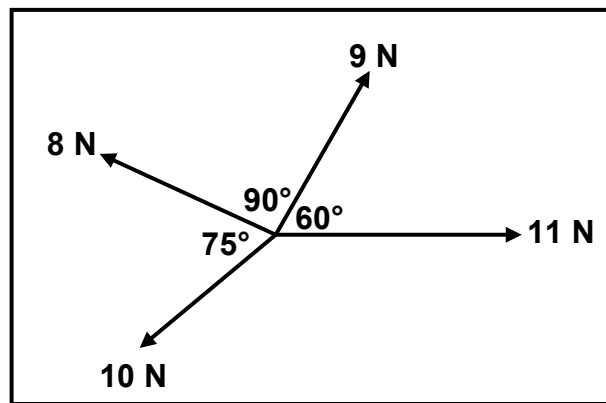

FIGURE 7.1
7.2 Four forces of 9 N, 11 N, 10 N and 8 N as shown in FIGURE 7.1 are acting onto the same point. Determine by means of calculations the equilibrant for the system of forces in FIGURE 7.1.